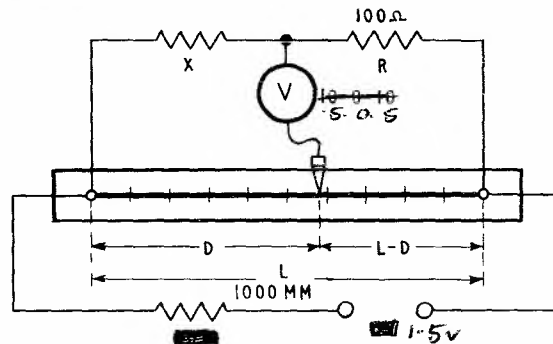

FIG. 1.
STEP 1. Connect the circuit as shown in Fig. 1.
Then from Fig. 1 -